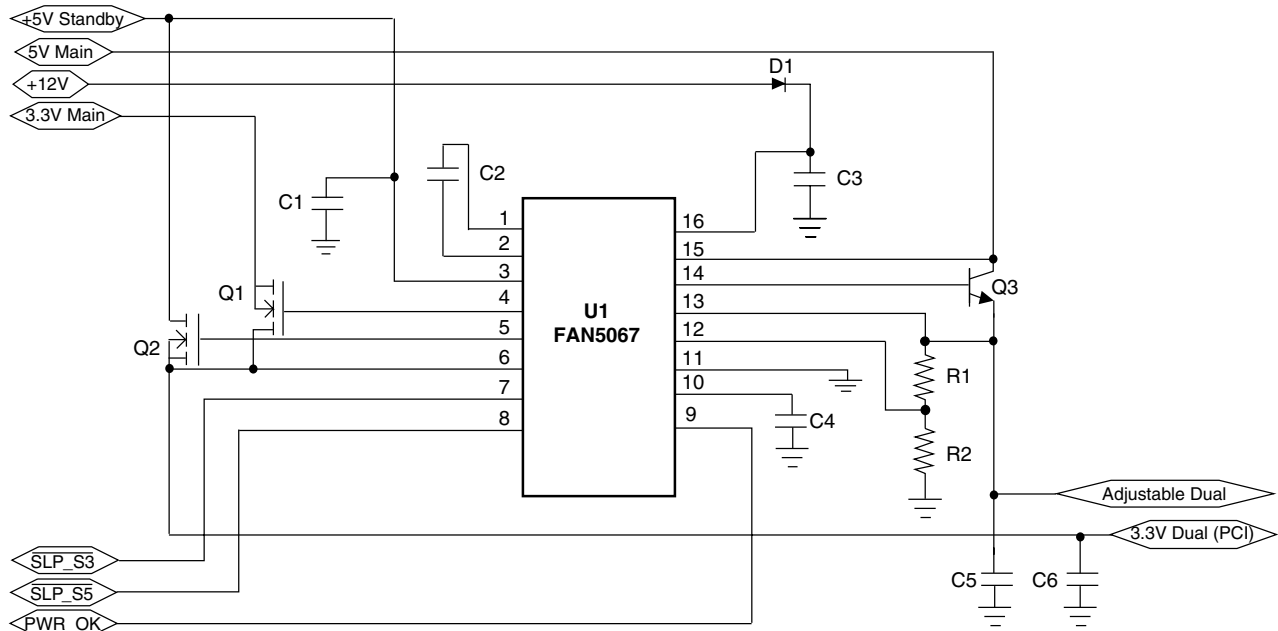
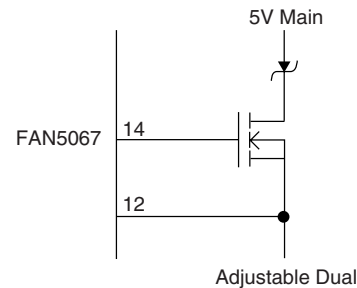

Figure 4. ACPI Selector
Figure 9. Adjustable Dual with MOSFET
( $V_{+5VSTBY} = V_{+5VMAIN} = 5V$ ,  $V_{+3.3V} = 3.3V$ ,  $V_{+12V} = 12V$  and  $T_A = +25^{\circ}C$  using circuit in Figure 4, unless otherwise noted.)
3.3V dual can be generated by two MOSFETs, one from +3.3V main, the other from +5V standby, as shown in Figure 4. When main power is present, the MOSFET Q1 is turned on as a switch, so that input and output are connected together. When main power is absent, the MOSFET Q2 is controlled by the FAN5067 as a linear regulator, generating a regulated 3.3V from +5V standby. The MOSFET Q1 must be connected as shown in the figures, to avoid back-feed.
Adjustable dual is generated by one external NPN bipolar acting as a linear regulator from +5V main, and one linear regulator internal to the FAN5067 from +5V standby, as shown in Figure 4, and in the block diagram on the front page. When main power is present, the NPN Q3 linear regulates, and when main power is absent, the internal linear regulator is on. Q3 cannot be substituted with a MOSFET. If used in one direction, the MOSFET’s body diode would permit back-feed; if used in the other direction, it would short-circuit the linear regulator action.
The output voltage of the Adjustable Dual is set with two resistors as shown in Figure 4, according to the equation.
In main power operation, the FAN5067 is run from the +12V main supply. This supply also provides voltage to the various MOSFET gates. However, during standby, this supply is off. To provide power to the chip and the appropriate gates, the FAN5067 incorporates a free-running charge pump. As shown in Figure 4, and in the block diagram on the front page, a capacitor attached between pins 1 and 2 of the FAN5067 acts as a charge pump with internal diodes. The charge pump output is internally diode or'ed with the 12V input. The 12V input must have a series diode to prevent back-feeding the charge pump to the +12V main when in standby. The 12V input line needs a bypass capacitor for high-frequency noise rejection. If desired, the system may be operated without the 12V or the diode; however, the bypass capacitor must still be present.
Instead of the bipolar transistor shown in Figure 4 for Q3, the linear pass element for the adjustable dual, a MOSFET and schottky diode can be used as shown in Figure 9.